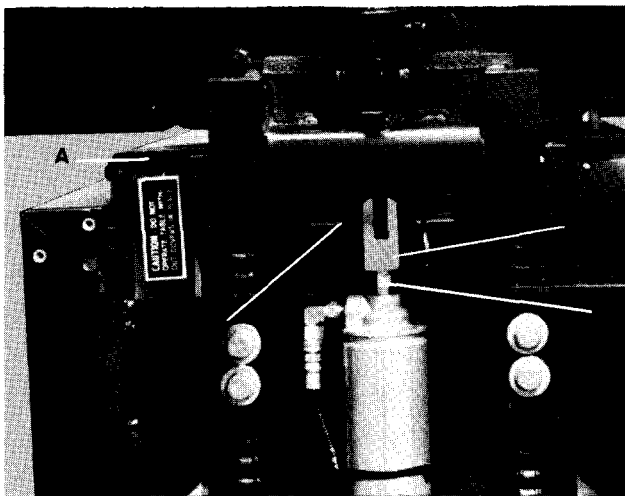

Fig. 31
DANGER: WHEN REMOVING THE CLEVIS PINS FROM THE BASE CYLINDER, THE TWO ASSISTANTS MUST SUPPORT THE TABLE TOP. KEEP HANDS AWAY FROM THE TOP OF THE SLIDES, POINT A, FIG. 31, AND FROM BENEATH THE BASE SLIDING MEMBER. AFTER REMOVING THE CYLINDER, STAND CLEAR OF THE TABLE AS THE TWO ASSISTANTS LOWER THE TABLE TOP. FAILURE TO DO THIS COULD RESULT IN
- 7) Connect the (3) hose fittings tightly to the new cylinder.
- 8) Have the two assistants lift on the table top enabling the clevis pin, Item B, Fig. 31, to be installed along with the cotter pin.
- 12) Fully retract the base cylinder and adjust for a 1/16" to 1/8" gap "A", Fig. 31, above the slides. To adjust for this gap, the clevis (rod end) must be adjusted in or out accordingly. To adjust the clevis, turn the cylinder rod using a 3/8" open end wrench on the wrenching flats, Item D, Fig. 31. The rod will turn easiest when it is extended about half of its total ex-